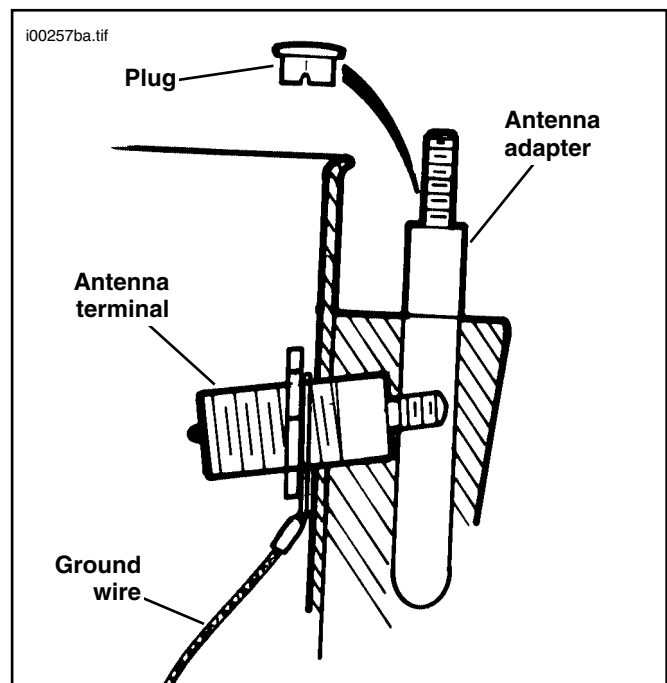

Figure 11. Antenna Adapter and Hole Plug
3. See Figure 11. Shield threads of antenna terminal stud with strip of light cardboard. Remove terminal with pliers across cardboard strip. Save terminal and mast for later installation.
28. See Figure 11. If the vehicle is radio equipped, the antenna terminal is connected to the antenna adapter furnished with the kit. Insert adapter so tapped hole aligns with hole in housing thread terminal removed from antenna base into tapped hole in antenna adapter. Place ground wire ring terminal followed by lockwasher onto threaded terminal and thread on nut. Tighten nut. Thread mast onto threaded end of